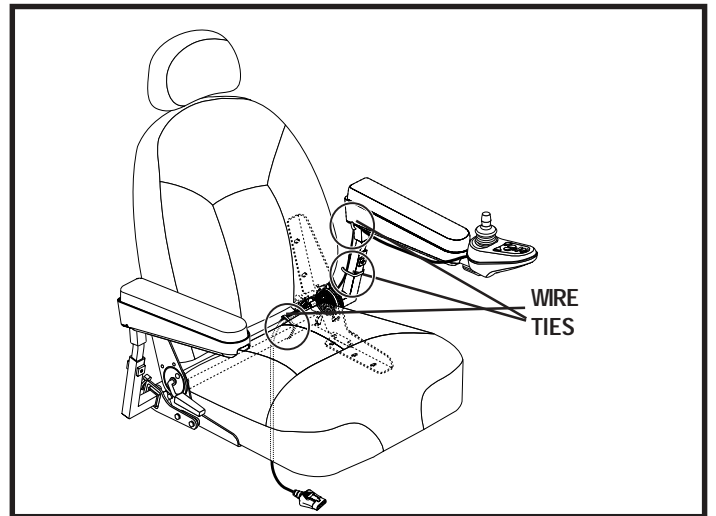

Figure 18. Select 6 Ultra Controller Routing
5. Lift the armrest straight up, then route the controller harness and secure with wire-ties as shown in figure 18.